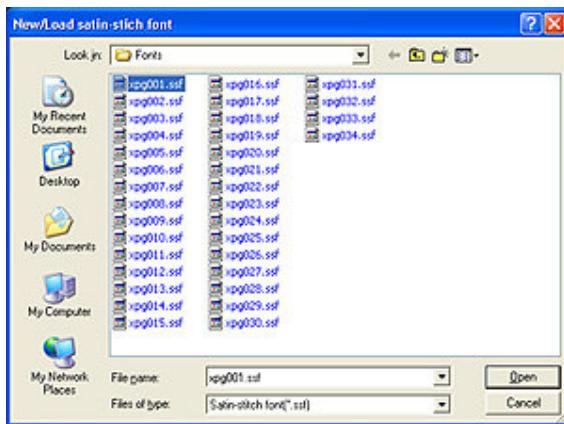

Figure 10.23: Open satin stitch font
windows dialog box (figure 10.23) where are listed all the pre-digitized fonts in .SSF file format.
1. Click on the “Font Editor>Open Satin font” option of “Tools” menu, “New/Load satin-stitch font” (Figure 10.23) dialog box appears dialog.